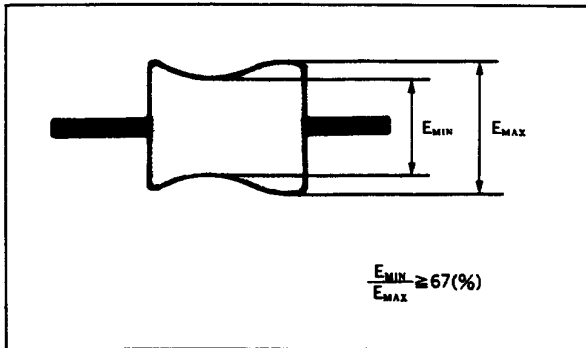

Fig. 60
- 2) At this time, check that a minimum amplitude value (E_{MIN}) is 67% or more of a maximum amplitude value (E_{MAX}). (Fig. 60)